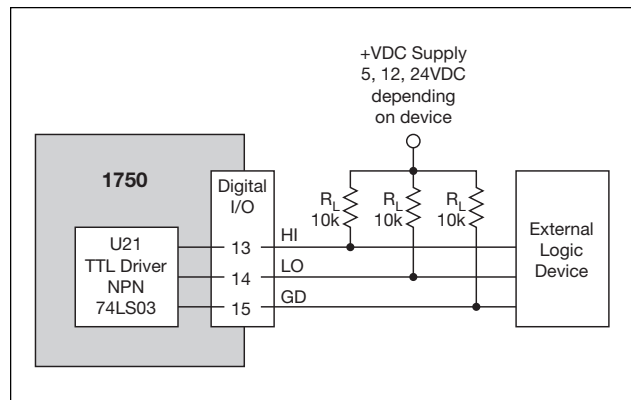

FIGURE 3. Pull-up resistors, R_L , are required for open collector signals in triggered PLC connections.
- This port is also connected to TTL circuitry. However, the OPEN COLLECTOR design provides interface capability. See Figure 3.
- The output circuits for pins 13, 14 and 15 are open collector (floating) and will not be read by the external logic device unless each of the three pins are connected to the external +VDC supply via a 10kΩ pull-up resistor (see Figure 3). In this way, the “enabled” signal will be sensed as 0–5VDC on the external logic device, while +VDC is referenced to ground via the other two pins.